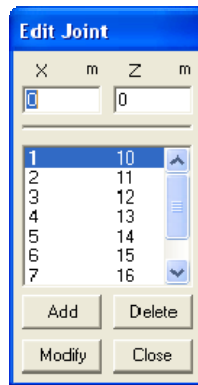

Figure 6-4 Edit Joint dialog box
- From the Edit menu, choose Edit Joint. The modeless dialog box of Figure 6-4 appears.